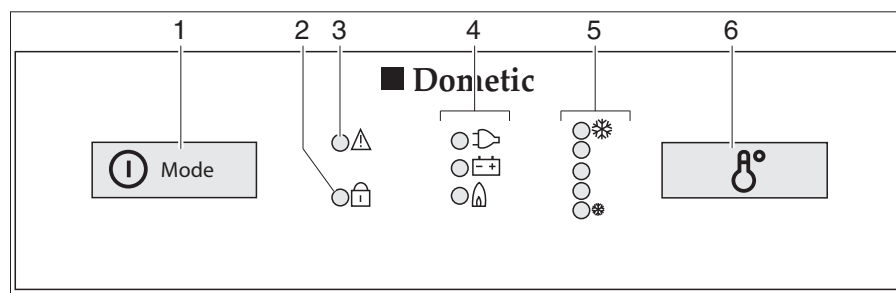

Fig. 269 Operating controls for the refrigerator (Dometic 8 series with MES)
- Press the on/off switch/energy selector switch (Fig. 269,1) down for 2 seconds in order to switch on the appliance. The LED of the operating mode chosen most recently lights up.
- If appropriate press the on/off switch/energy selector switch (Fig. 269,1) until the gas operating indicator "🔥" lights up. Gas supply is open. Ignition will take place automatically. A ticking sound can be heard until ignition has been completed successfully.
- Use switch (Fig. 269,6) to adjust refrigerating temperature.
- If appropriate press the on/off switch/energy selector switch (Fig. 269,1) several times until the operating indicator 240 V "" lights up.
- If appropriate press the on/off switch/energy selector switch (Fig. 269,1) several times until the operating indicator 12 V "" lights up.